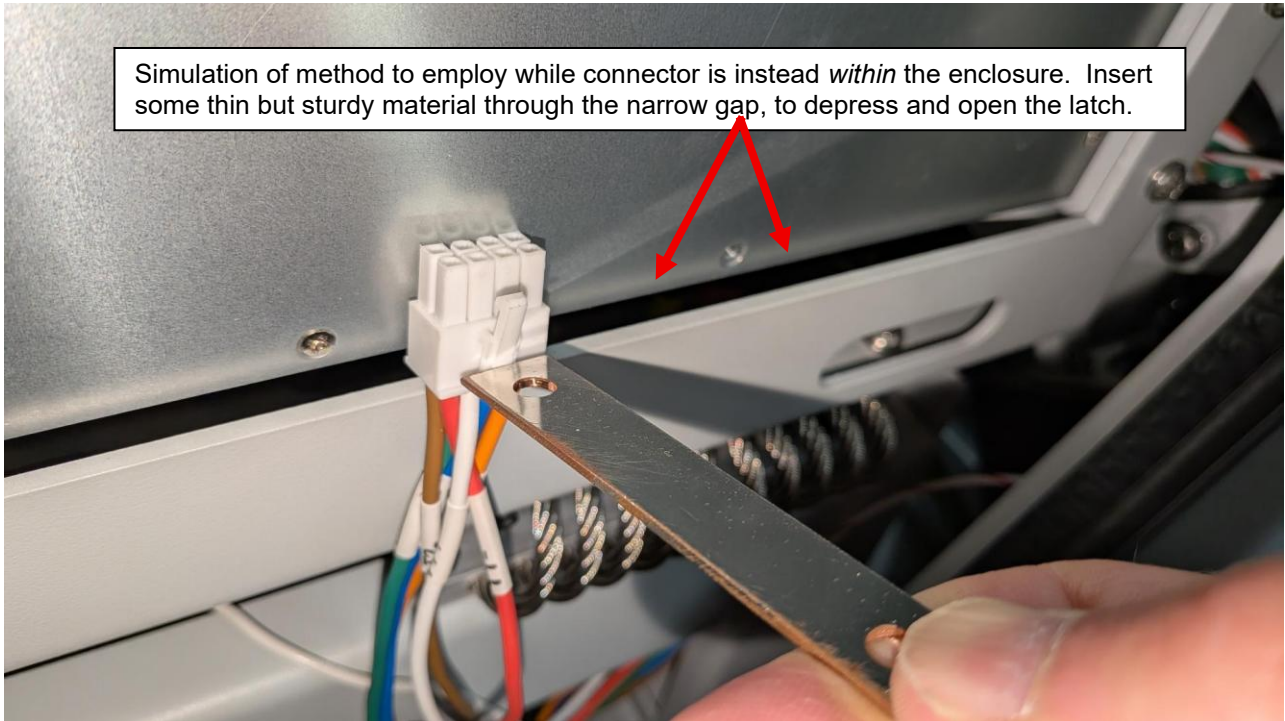

Figure 20
16. Reach under and pull the Molex connector out with left hand, while releasing it with a tool in your right hand. (See simulation in Figure 20.)